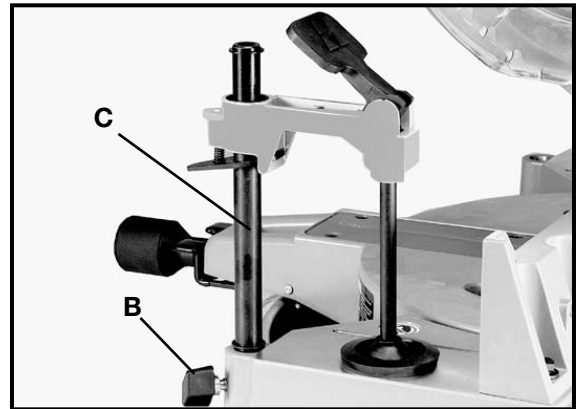

Fig. 19
1. Thread lock knob (B) Fig. 19, into threaded hole where the clamp will be inserted. Place post (C) of work clamp down through hole as far as possible. Tighten lock knob (B). An additional lock knob (B) is supplied and can be threaded into one of the other three holes. (TIP: Thread the two lock knobs into the two holes where the work clamp will be used most frequently.)